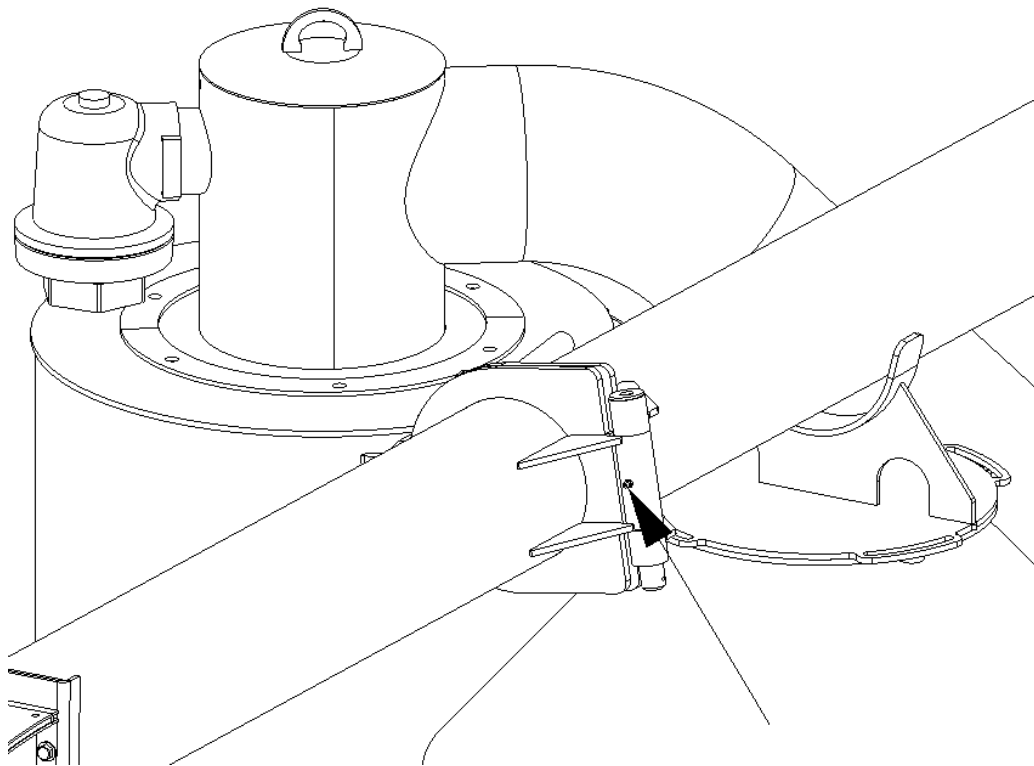

Figure 7-27: Split boom hinge grease fitting
6. Lubricate the boom hinge in the location shown in **Figure 7-27**.